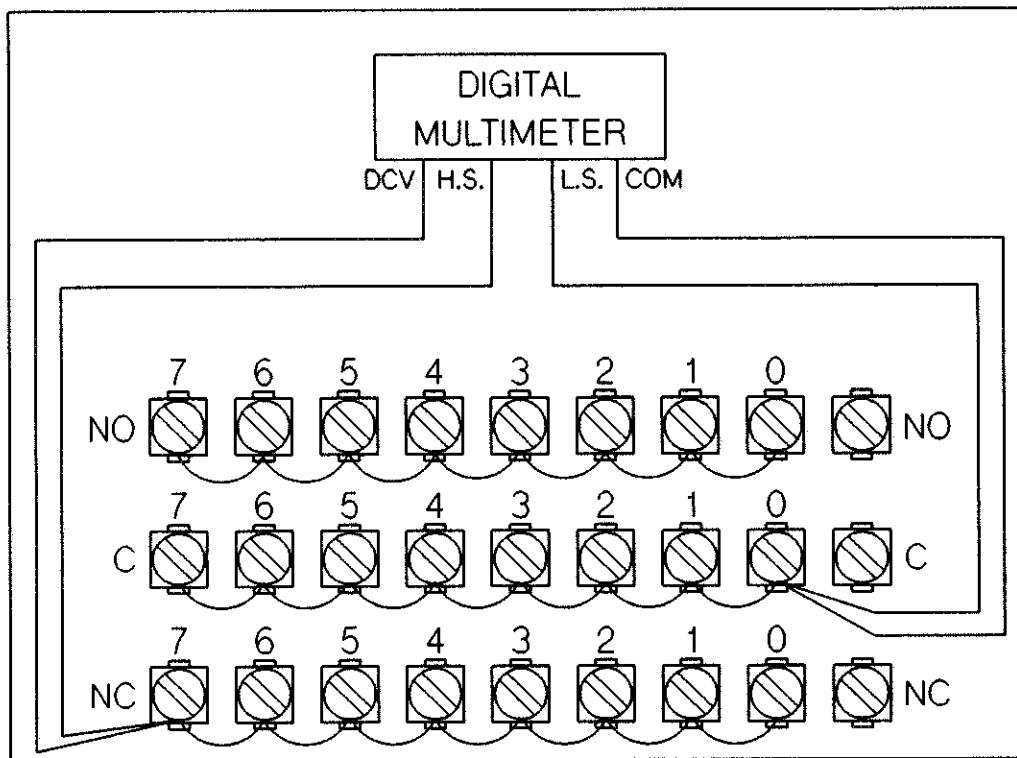

Figure 16-6 HP 44728A NC Channels Contact Resistance Test
10. Connect the multimeter DCV input and high SENSE leads to the NC (Normally Closed) connection on the test fixture. Connect the multimeter COM input and low SENSE leads to the C (Common) connection on the test fixture. The connections are shown in Figure 16-6.